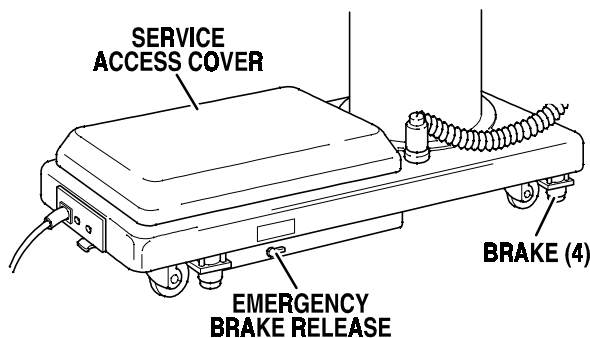

Figure 3-4. Emergency Brake Release
b. **Emergency Brake Release.** In case of a power failure or an electrical problem within the table, the emergency brake release system can be used to move the table. The control lever for this function is located on the side of the table base and is identified by an EMERGENCY BRAKE RELEASE label. Turn the lever counterclockwise to release the brakes. See figure 3-4.